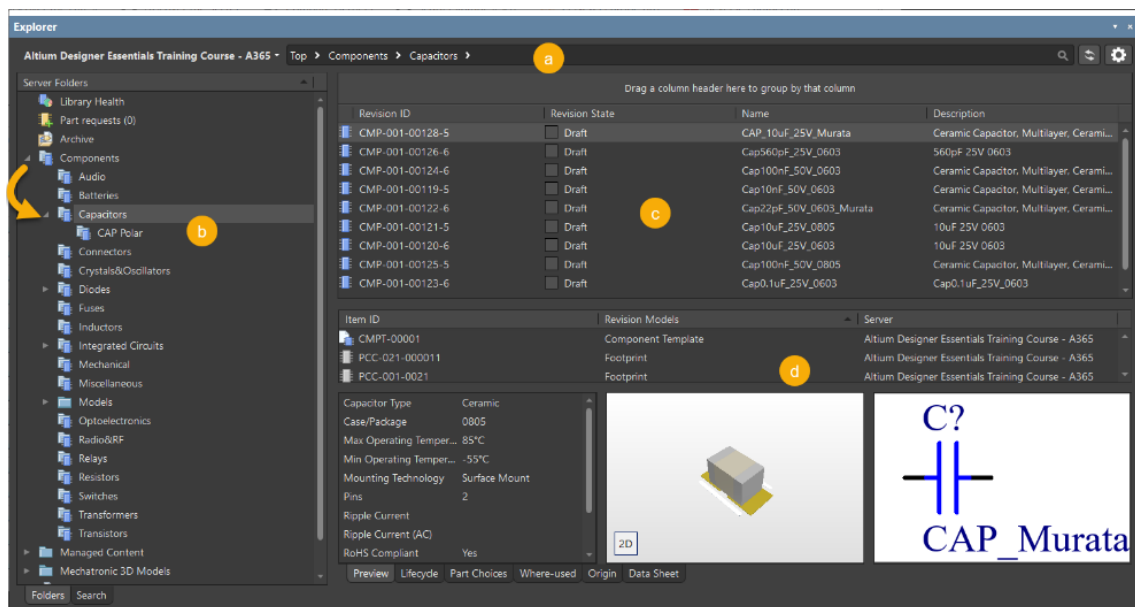

Figure 3. Explorer Panel - Folder View
7. Open the Explorer Panel using **K»R**, you will see a panel similar to Figure 3.